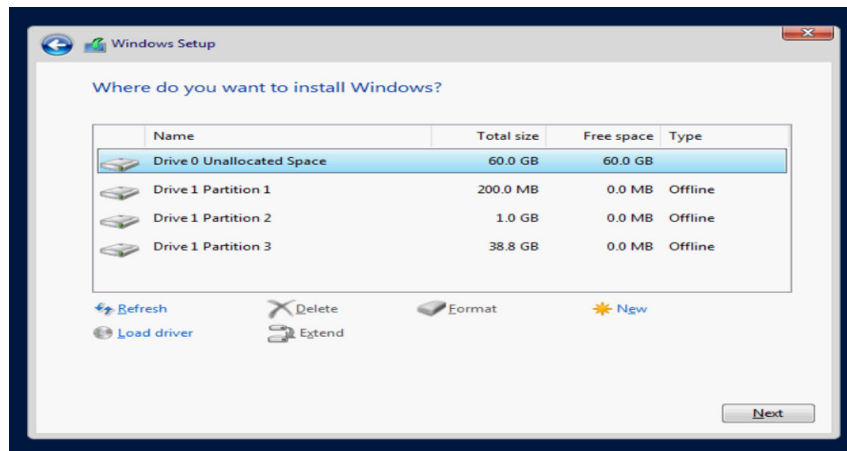

Figure 6-17. Windows Setup: Selecting Installation Destination
3. In the Windows Setup window (Figure 6-17), select the drive name on which to install the driver.